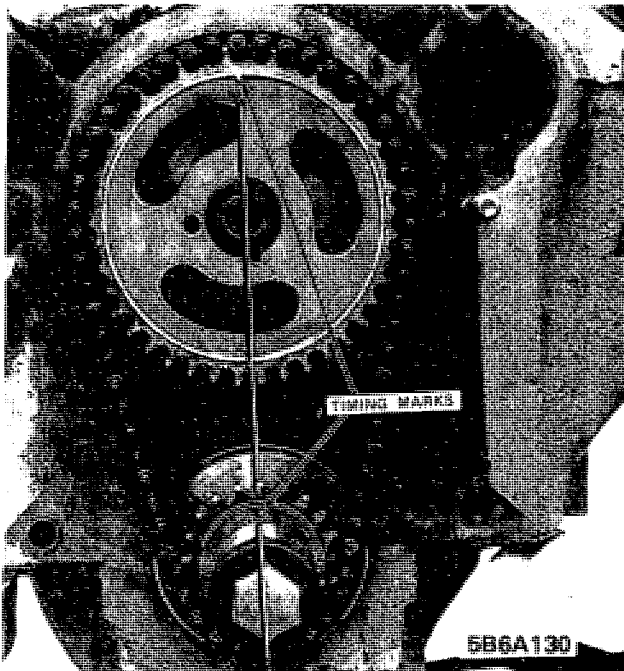

Figure 6A-130 - Timing Marks Aligned with No. 1 at T.D.C.
3. Align timing marks to simplify proper positioning of sprockets during reassembly (Figure 6A-130).